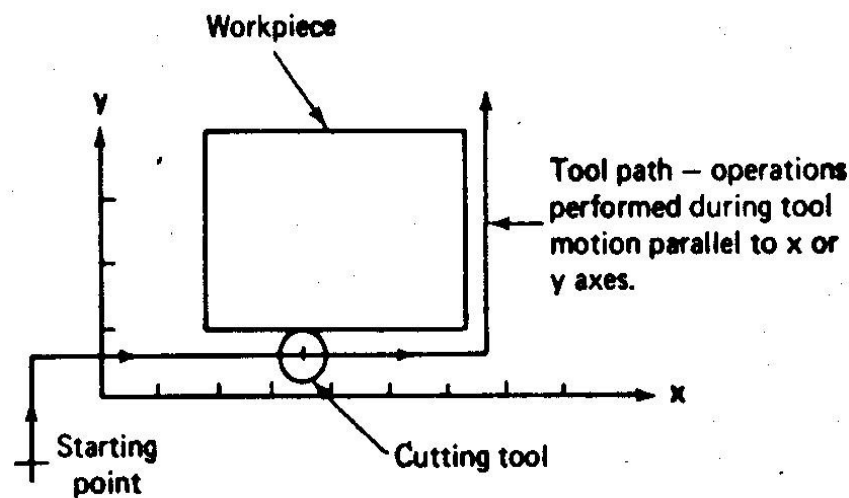

FIGURE 8.6 Straight-cut control in NC.
- ◆ An example of a straight cut operation is shown in figure 8.6.